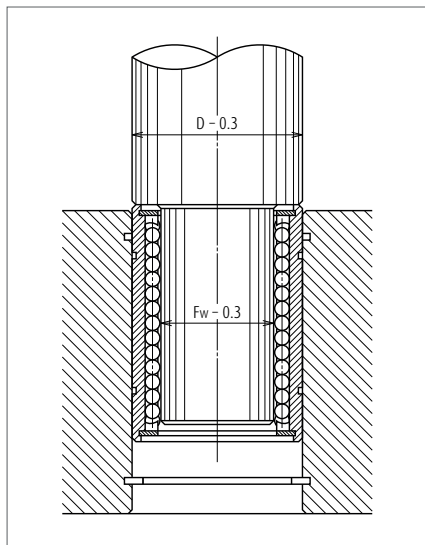

Fig. 10 Tool to install a linear rolling bushing
- To install linear rolling bushing, use a tool (Fig. 10) and squeeze it in, or use a holder and lightly pound it.